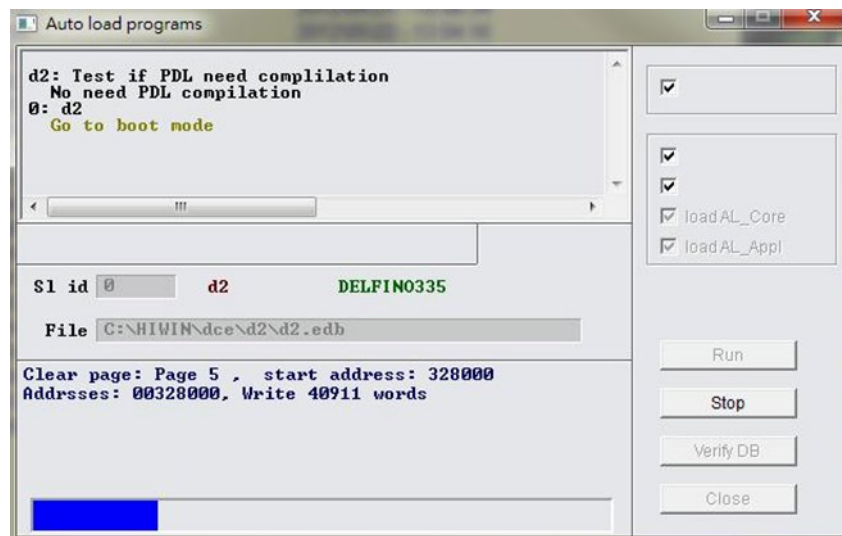

Figure12.1.4
- Step 3: Click the “Confirm” button to appear the “Auto load programs” window. The firmware will be loaded to the drive automatically, as shown in figure 12.1.4.